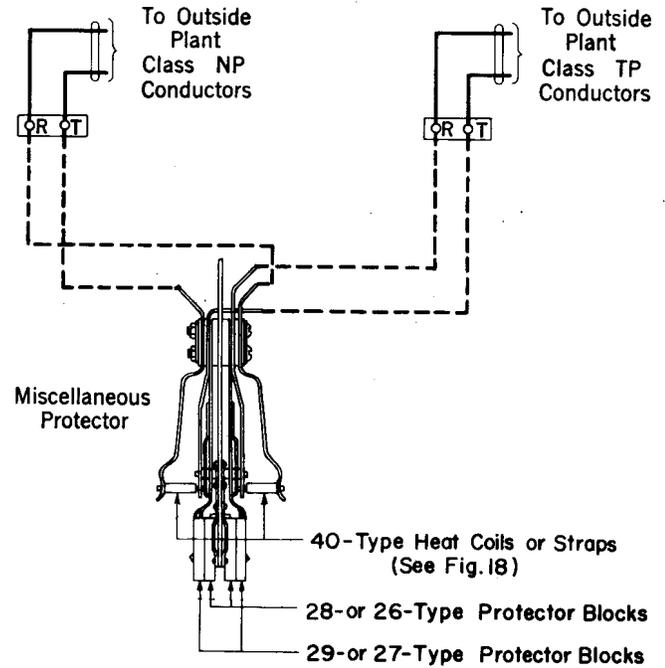

Fig. 24—Class NP to Class TP Conductors—Looped
6.29 A circuit composed of class TP and class NP conductors looping through an office shall be connected and protection provided as shown in Fig. 24.